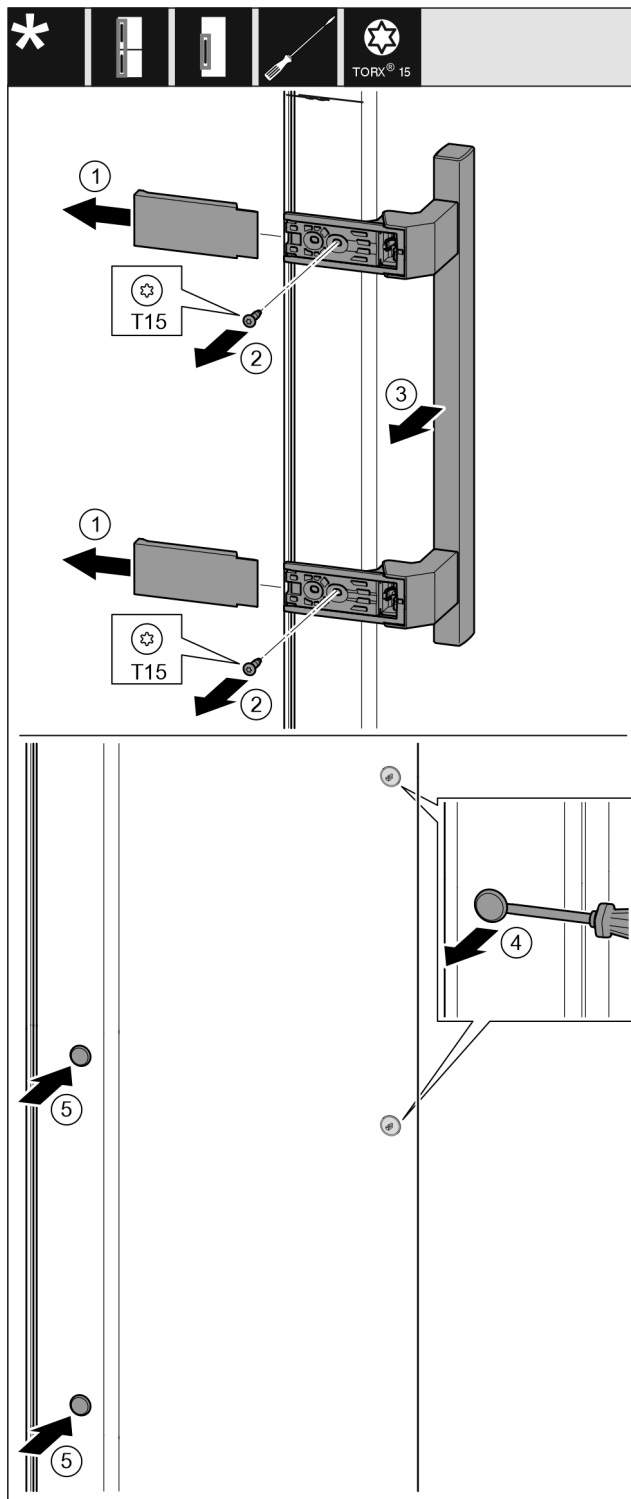

Fig. 39
- Pull off the cover. Fig. 39 (1)
- Remove the screws with a T15 screwdriver. Fig. 39 (2)
- Take off the handle. Fig. 39 (3)
- Carefully lift up the side plugs with a slotted screwdriver and pull them out. Fig. 39 (4)
- Insert the plugs again on the other side. Fig. 39 (5)